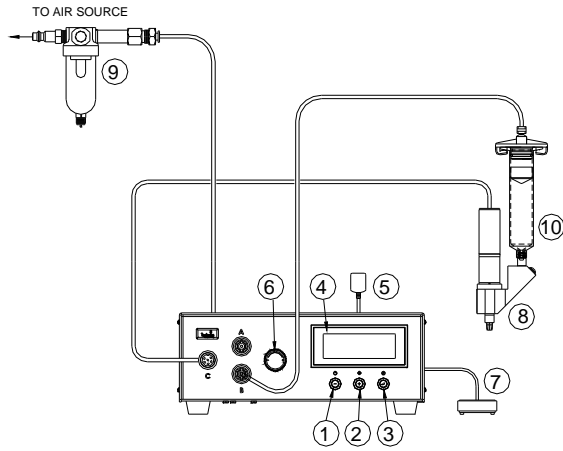

Figure 6.0
5.3.1 Connecting The Unit: (Refer to Figure 6.0 for detail)
5.4.1 Connecting The Unit: Refer to Figure 6.0 for details